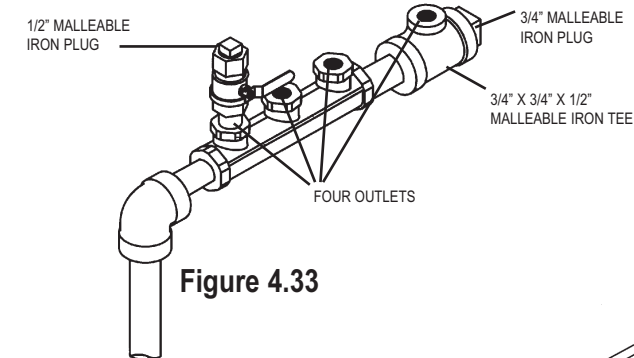

Figure 4.33
- Manifolds are used where multiple tubing runs are made from a common location forming a parallel system configuration. Manifolds may be a one piece unit manufactured from malleable iron or brass. They may also be constructed as a welded fabrication of steel and subcomponents and brass or malleable iron tee's connected with pipe nipples. See figures 4.33 and 4.34 below for examples of manifolds.